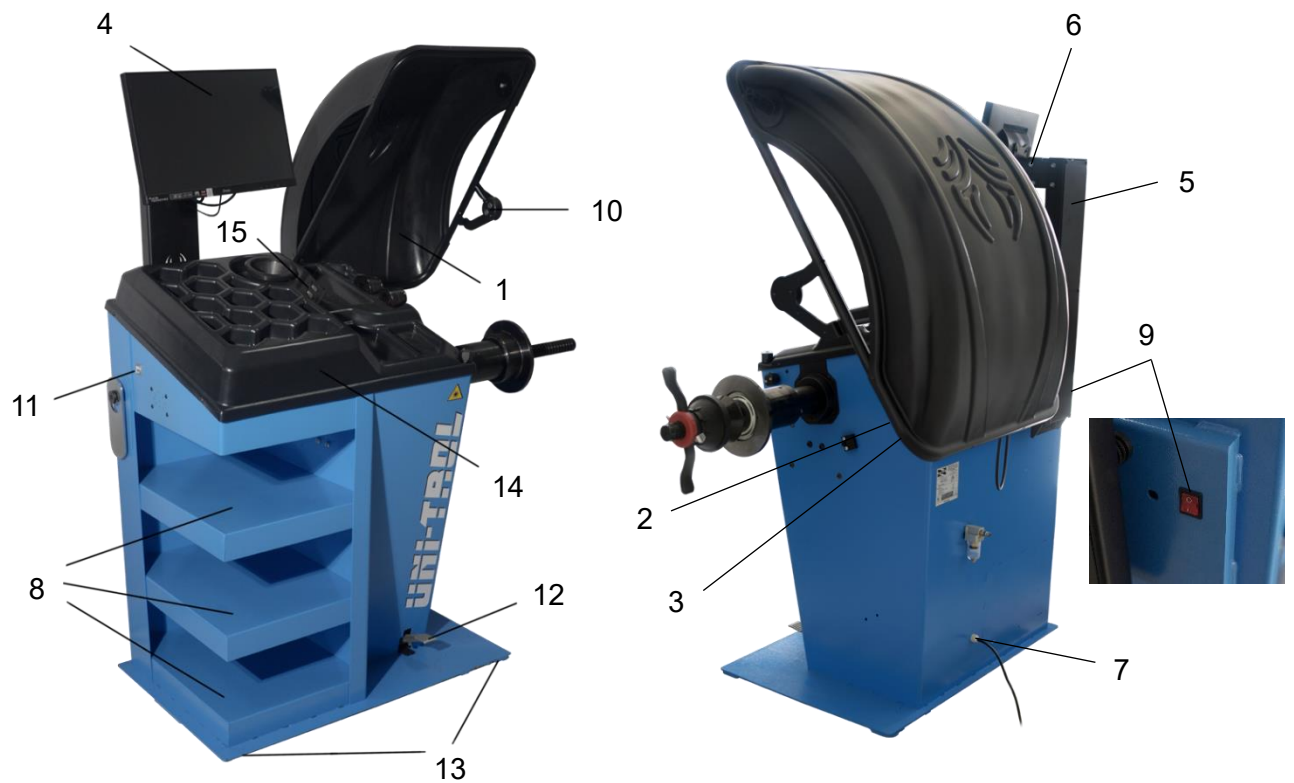

Fig. 1: wheel balancer components
The description and the numbering of elements below are based on Figure 1.
The description and the numbering of elements below are based on figure 1. To mount the monitor on the balancer first screw the monitor bracket (5) to the machine housing using 2 screws with wide washers. Put the monitor tilt regulator (6) on the bracket and then screw the monitor (4) to it. Finally, connect the power cable, signal cable and USB cable (in case of a touch-screen monitor).